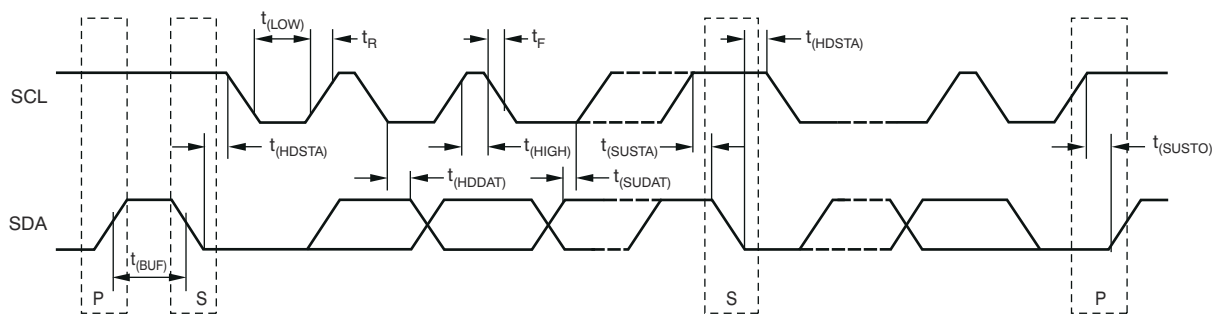

Figure 6-1. Two-Wire Timing Diagram
(1) Tested with less than 5- Ω effective series resistance and 100-pF differential input capacitance.
6.6 Timing Characteristics for Figure 6-1